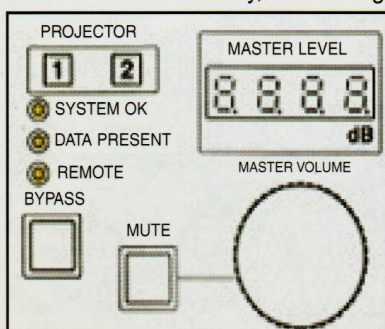

Figure 3
- Ensure that the "DATA PRESENT" & "SYSTEM OK" LEDs on the SDDS Decoder front panel is illuminated steadily, refer to Figure 3.
- Ensure that the "BYPASS" & "MUTE" keys are NOT illuminated, refer to Figure 3.